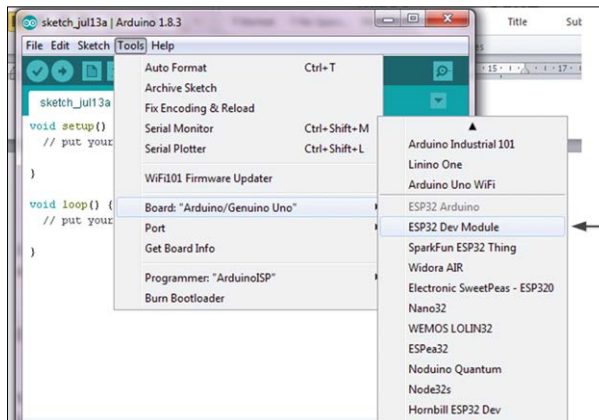

Figure 14.4 Select the ESP32 Dev Module
- If the software is installed correctly, then you should see the ESP32 Dev Module which is the board we will be using with our ESP32 DevKitC. Select **Tools -> Board -> ESP32 Dev Module** as shown in Figure 14.4.